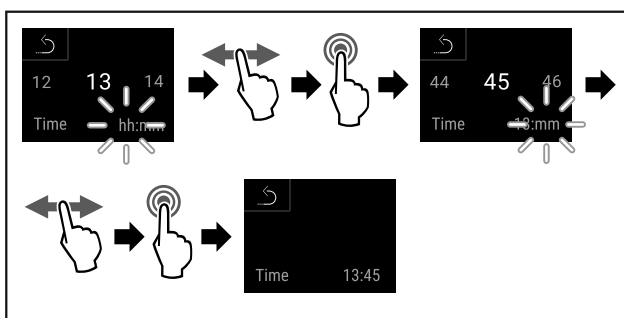

Fig. 107
- ▶ Complete steps (see Fig. 107) .